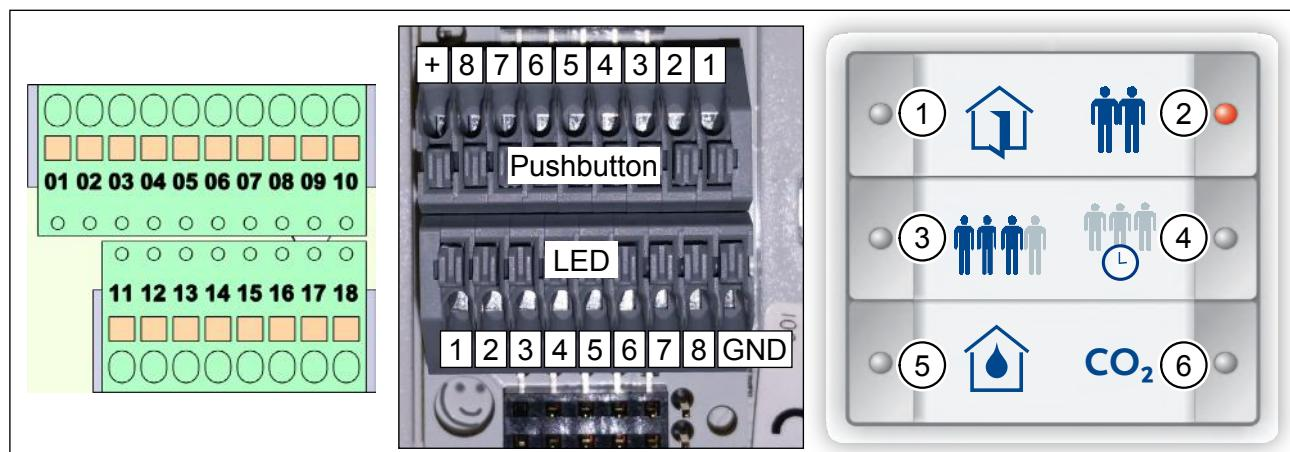

Fig. 7: Terminal blocks on M-WRG-S/Z-T-FC, terminal blocks on InControl pushbutton sensor, M-WRG-S/Z-T-FC insert sheet
- After wiring, place the insert sheet (Fig. 7) in the InControl pushbutton sensor.